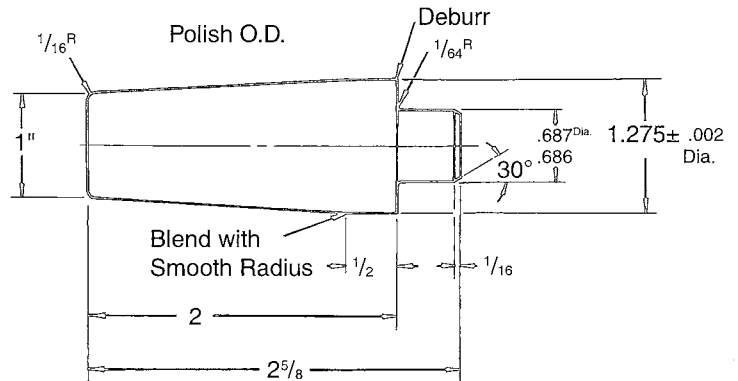

Fig. 5 Oil Seal Installation Thimble
into retainer (32). Check gasket (34), replace if damaged. Fig. 5 shows a recommended thimble for installation. The thimble should be machined from high carbon steel and polished on the exterior to reduce possibility of seal lip damage. Place two Allen screws into clearance holes and tighten snug.